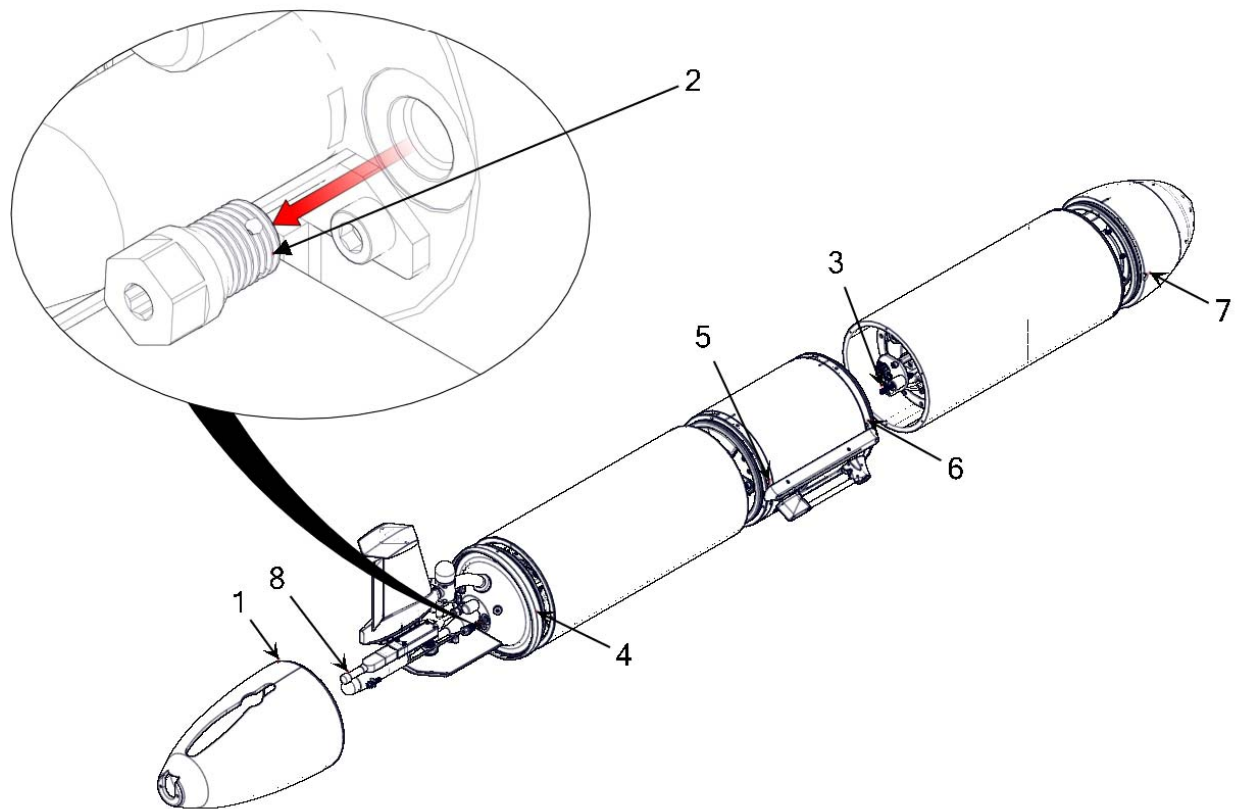

Figure 2-1 G2 Glider.
2. Remove the aft cover (Figure 2-1, Item 1). For more details, refer to "Removing the Aft Cover" on page 2-55.
3. Remove the military standard (MS) plug (Figure 2-1, Item 2).
5. Unscrew until the tie rod is disengaged from the tie rod plate (Figure 2-1, Item 3).
6. Use the hull separation tool to separate the science/payload bay from the forward (Figure 1, Item 6) and aft (Figure 2-1, Item 5) hull sections.
7. Grip the digital tail fin (digifin) to separate the aft hull section from the aft end cap assembly (Figure 2-1, Item 4).
8. Use the hull separation tool to separate the forward section from the forward assembly (Figure 2-1, Item 7) For more details, see "Forward Assembly" on page 2-9.
10. Slide the payload bay and forward hull sections together until the tie rod engages with the tie rod plate (Figure 2-1, Item 3) in the forward hull section.
14. Use a vacuum pump with an evacuation tool and place the 7/16" MS plug (Figure 2-1, Item 2) on the hex driver.
16. Evacuate the glider to six inches of mercury for 200-meter glider and seven inches of mercury for a 1000-meter glider, and screw in the MS plug (Figure 2-1, Item 2) using the 15" lb torque handle.
WARNING Peek parts are delicate. Proper tools must be used for peek parts and proper torque applied; otherwise, these parts will snap. In general, peek parts (such as the MS vent plug shown in Figure 2-1) can be recognized by their light brown color and plastic appearance.